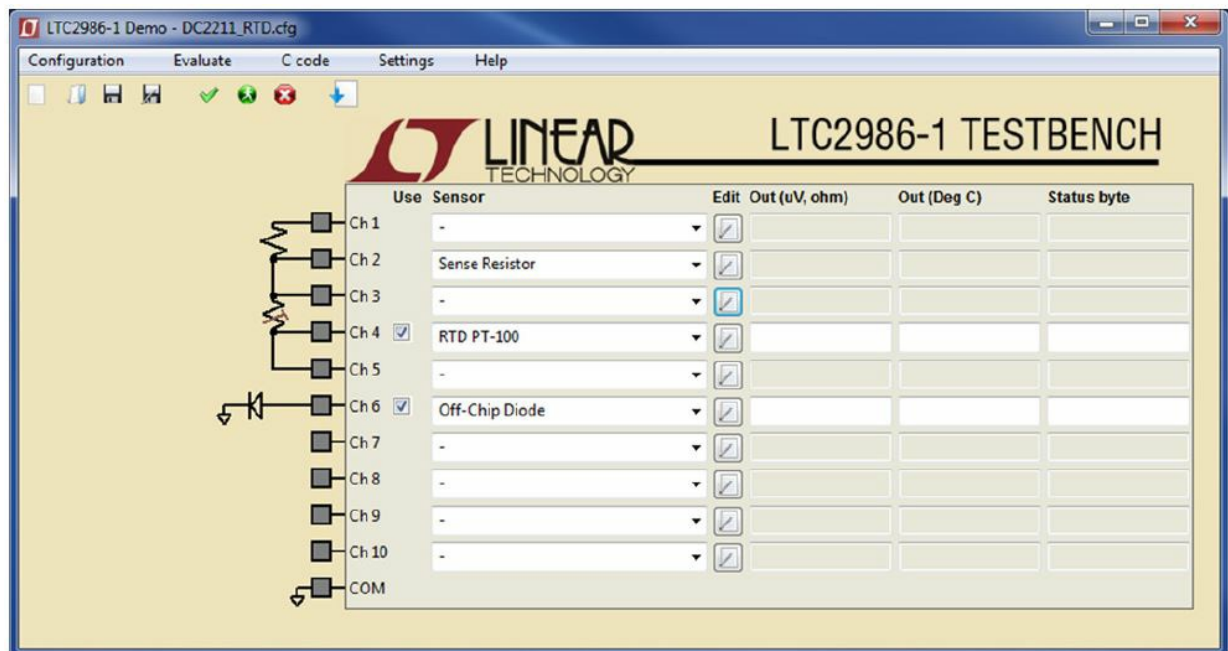

Figure 8b. DC2211 4-Wire RTD Software Configuration
- A 4-wire RTD connected to position A-D using the on-board sense resistor as the ratiometric reference (see Figure 7b for the schematic and Figure 8b for the corresponding software configuration).